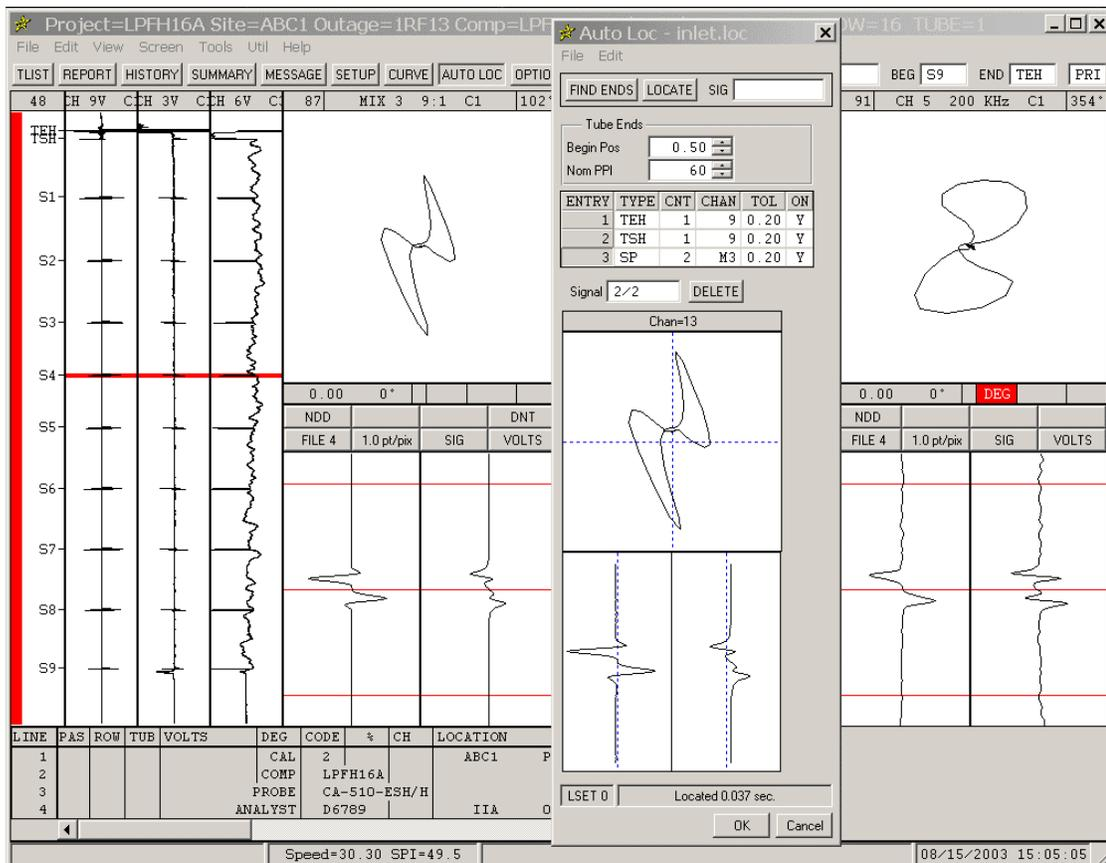

Figure 1-30. Auto-locate - Training More Tube Support Structures
- STEP 23:** Click the *LOCATE* button. The tube end, the top-of-tubesheet, and all tube supports should now appear in the *Landmark* strip at the correct locations in the data file as shown in Figure 1-30.